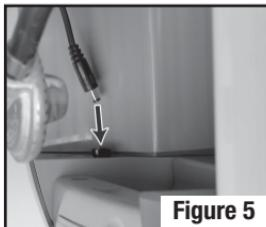

Figure 5
**4. Attach Low Voltage Power Cord.** Plug the low voltage power connector end of the power supply into the underside of the Vacuum Head located behind the Right Pedestal Upright (**Figure 5**).